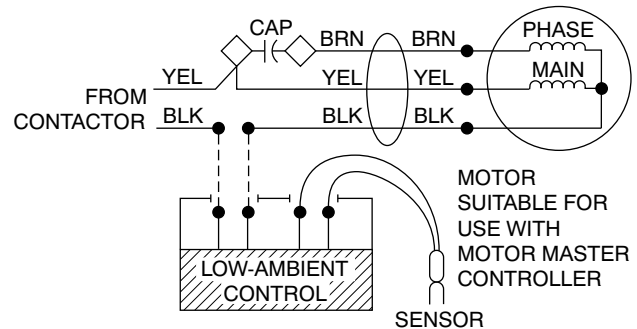

Fig. 7 – Power Wiring for 208-v, 230-v, and 460-v Condensing Units
MotorMaster must be wired in series with fan motor. (See Fig. 7.) Power wiring must comply with all local codes and NEC requirements.
4. Bypass MotorMaster by connecting black wire from unit contactor directly to black fan motor lead. (See Fig. 7 or 8 and unit wiring label.)